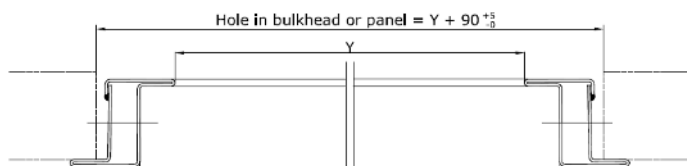

Figure 1 - Hole in bulkhead/panel = $Y+90^{\circ}$
1. Check that the size of the bulkhead/panel opening is correct. (figure 1)